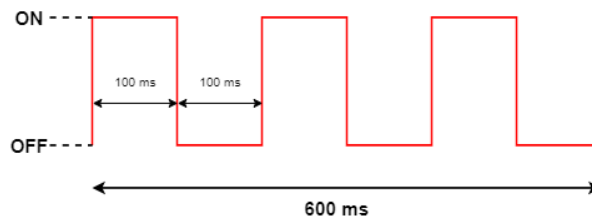

Figure 5-11: The RED LED Pattern Before Entering DEEP SLEEP
3. Immediately after that, **FS** is toggled ON and OFF 3 times: every 100 ms for 0.6 sec as shown in Figure 5-11. The device goes to DEEP SLEEP after this.